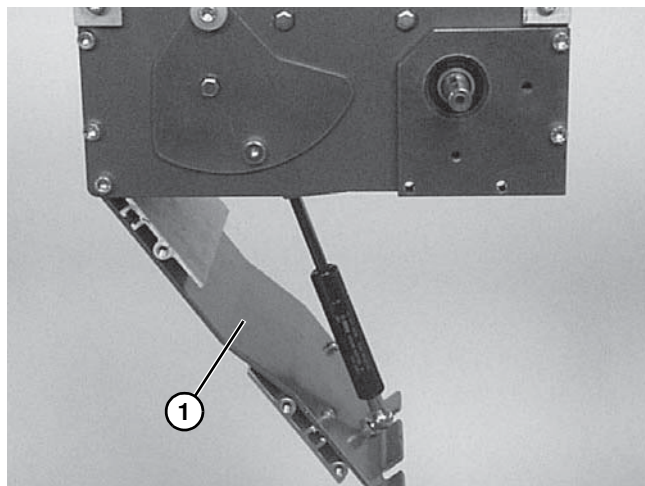

Figure 52
9. Carefully close the drive module tension door (**Figure 52, item 1**). See WARNING.